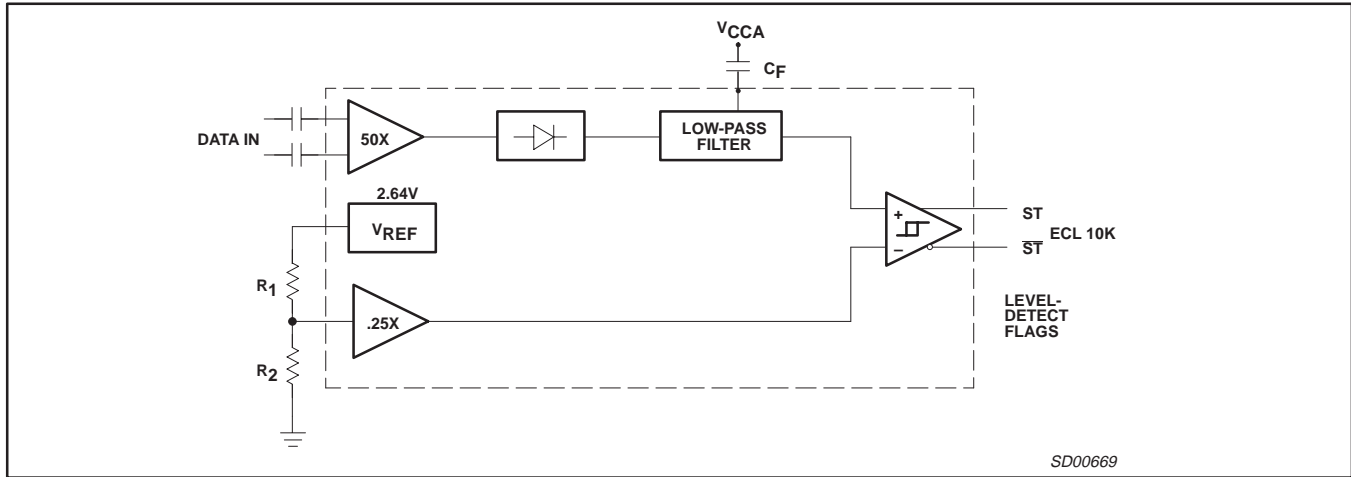

Figure 6. SA5225 Sample Application: Input Signal Level-Detect System
Figure 6 shows a simplified block diagram of the SA5225 level-detect system. The input signal is amplified and rectified before being compared to a programmable reference. A filter is included to prevent noise spikes from triggering the level-detector. This filter has a nominal 1 μs time constant, and additional filtering can be achieved by using an external capacitor (CF) from Pin 7 to V_{CCA} (the internal driving impedance is nominally 24k). The resultant signal is then compared to a programmable level, V_{SET} , which is set by an internal voltage reference (2.64V) and an external resistor divider (R1 and R2). The value of $R1 + R2$ should be maintained at approximately 5k.